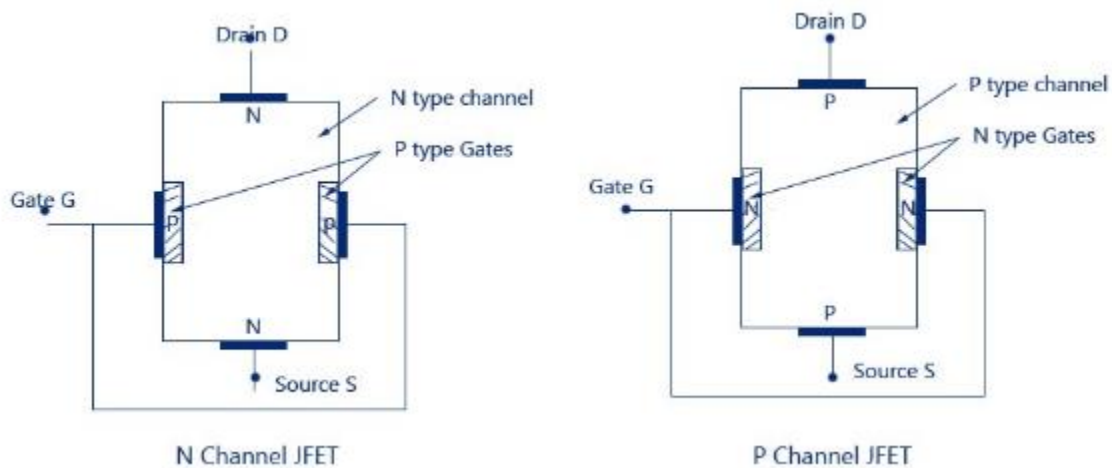

Fig. 4.2 Construction of JFET
- In an N-channel JFET an N-type silicon bar, referred to as the channel, has two smaller pieces of P-type silicon material diffused on the opposite sides of its middle part, forming P-N junctions, as illustrated in figure 4.2.